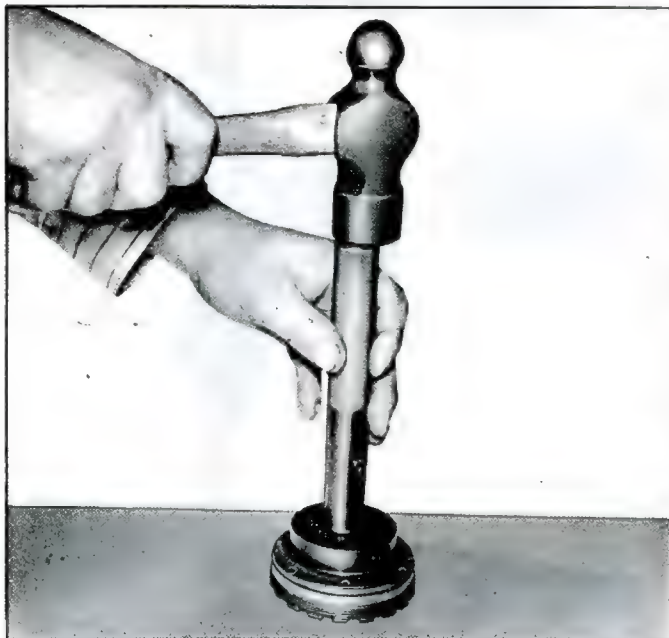

Fig. 23—Installing Bearing Race in Pinion Adjusting Sleeve with J-7137 Driver and J-7079-2 Handle
2. Install new race in pinion adjusting sleeve using J-7137 Driver and J-7079-2 Handle (fig. 23).